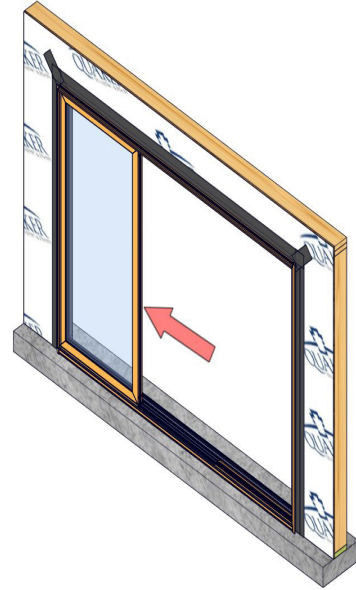

Fig. 23
2. Slide the panel tight against the frame keeping the panel flush with the fixed panel extrusion in the sill (Fig. 23)